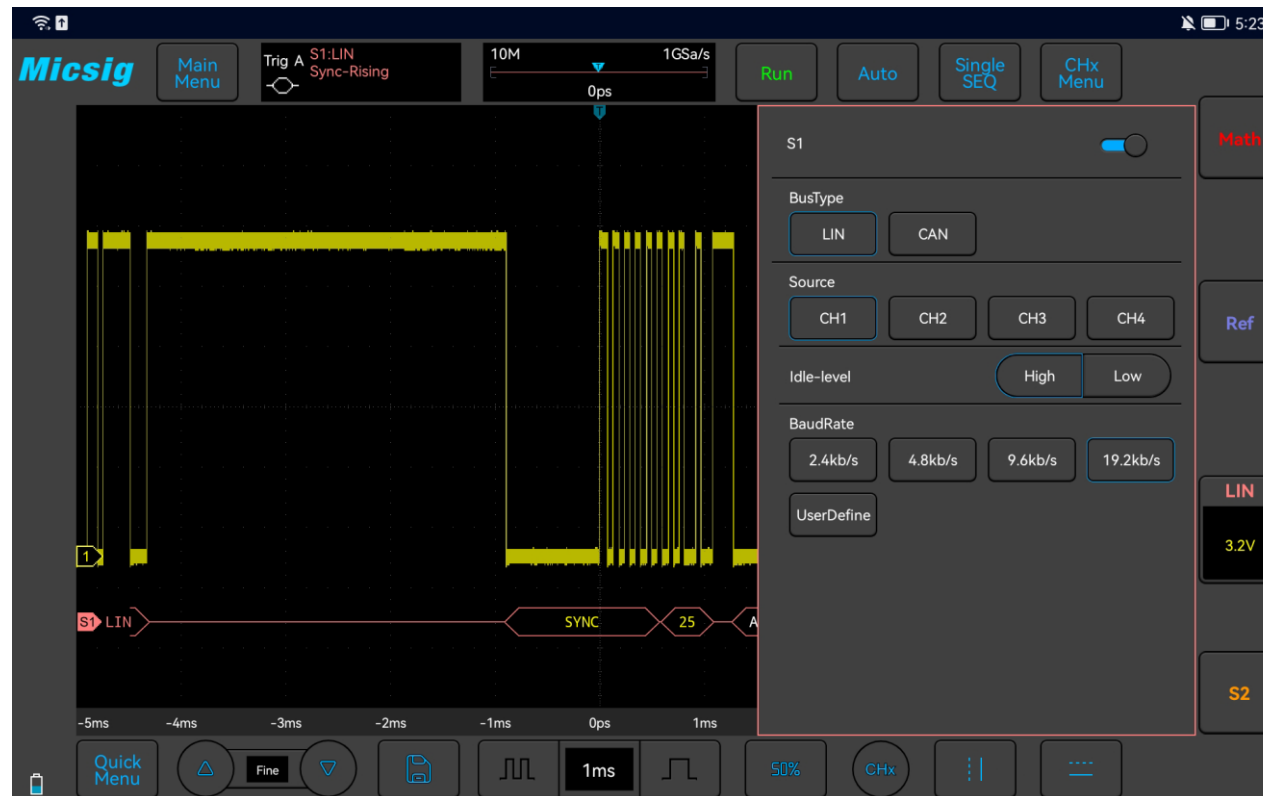

Figure 11-2 LIN Bus Configuration Menu
(1) Tap S1 to open the decode channel, and click S1 again to open the bus configuration menu;
(2) Select the bus type as “LIN”, click “Ch1”, “Idle High”, “Parity None”, “8bit”, “19.20kb/s”, display “hexadecimal”, then close menu;
(3) Open the trigger mode setting menu, click “Data”, enter 55 manually, and press “enter” to confirm;
(4) Adjusting the threshold level according to the amplitude level of signal may make the signal to be stably triggered. The LIN trigger graphic interface is shown in Figure 11-2:
Method: Click configuration information  to open the decode channel threshold level adjustment box, and drag the adjustment box upward and downward to adjust the threshold level. As shown in Figure 11-2: